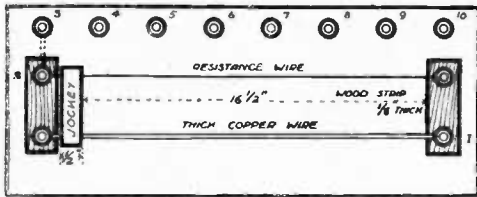

Fig. 1.—A plan view of the box.
**M**ANY experiments in electricity need a resistance which can be adjusted to different values, and below is described a simple, cheap, and efficient instrument for performing this duty. If made carefully, it will give very accurate results. First procure a 2oz. reel of "Eureka" resistance wire, 22 gauge. Such a reel, double silk covered, costs about 1s. 5d. Fig. 1 shows the top of the box, which is 1ft. 8in. by 4in. Mount two terminals with a space of exactly 17in. clear between them, and stretch a piece of the resistance wire lightly between them. This piece of resistance wire must be bared by having the whole of its silk covering stripped off. Now mount a second pair of terminals an inch away from these, and between them stretch a piece of thick copper wire (about 1/4 in. thick). This, too, must be bared.